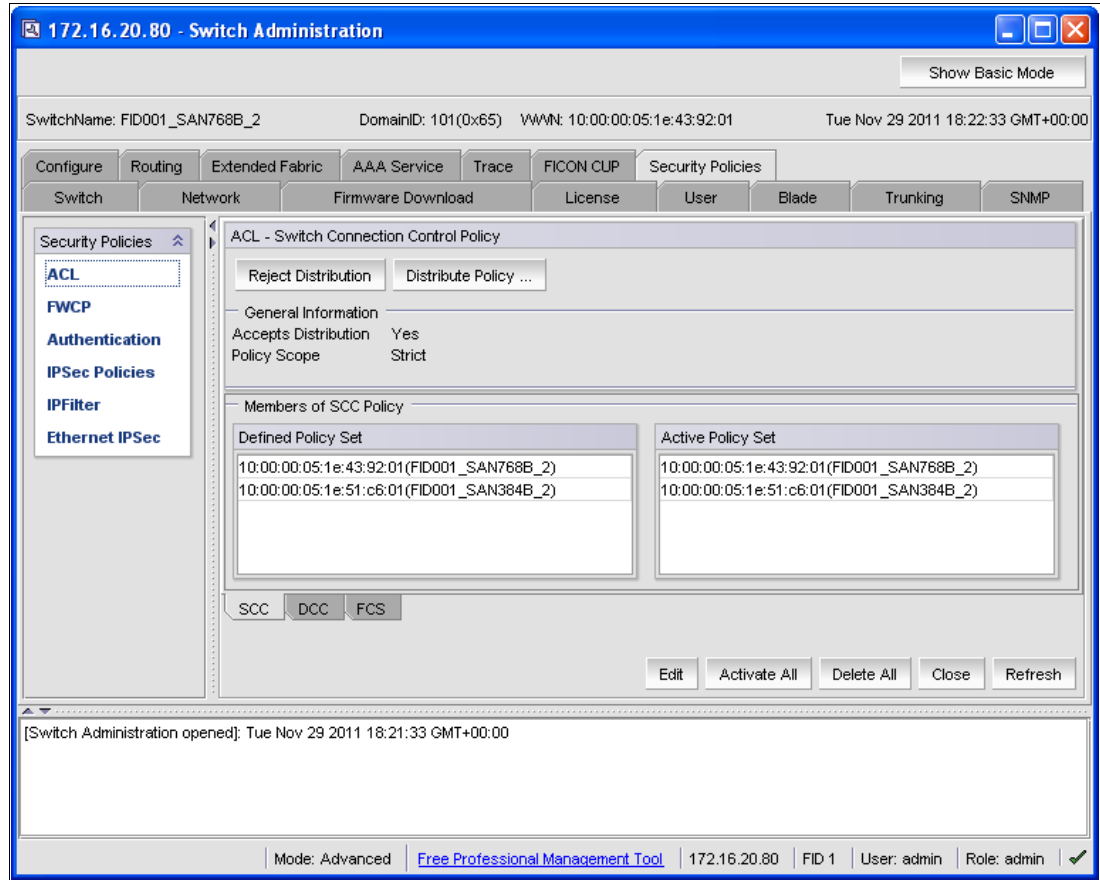

Figure 8-62 Security Policies
3. Select the **Security Policies** tab, as shown in Figure 8-62.